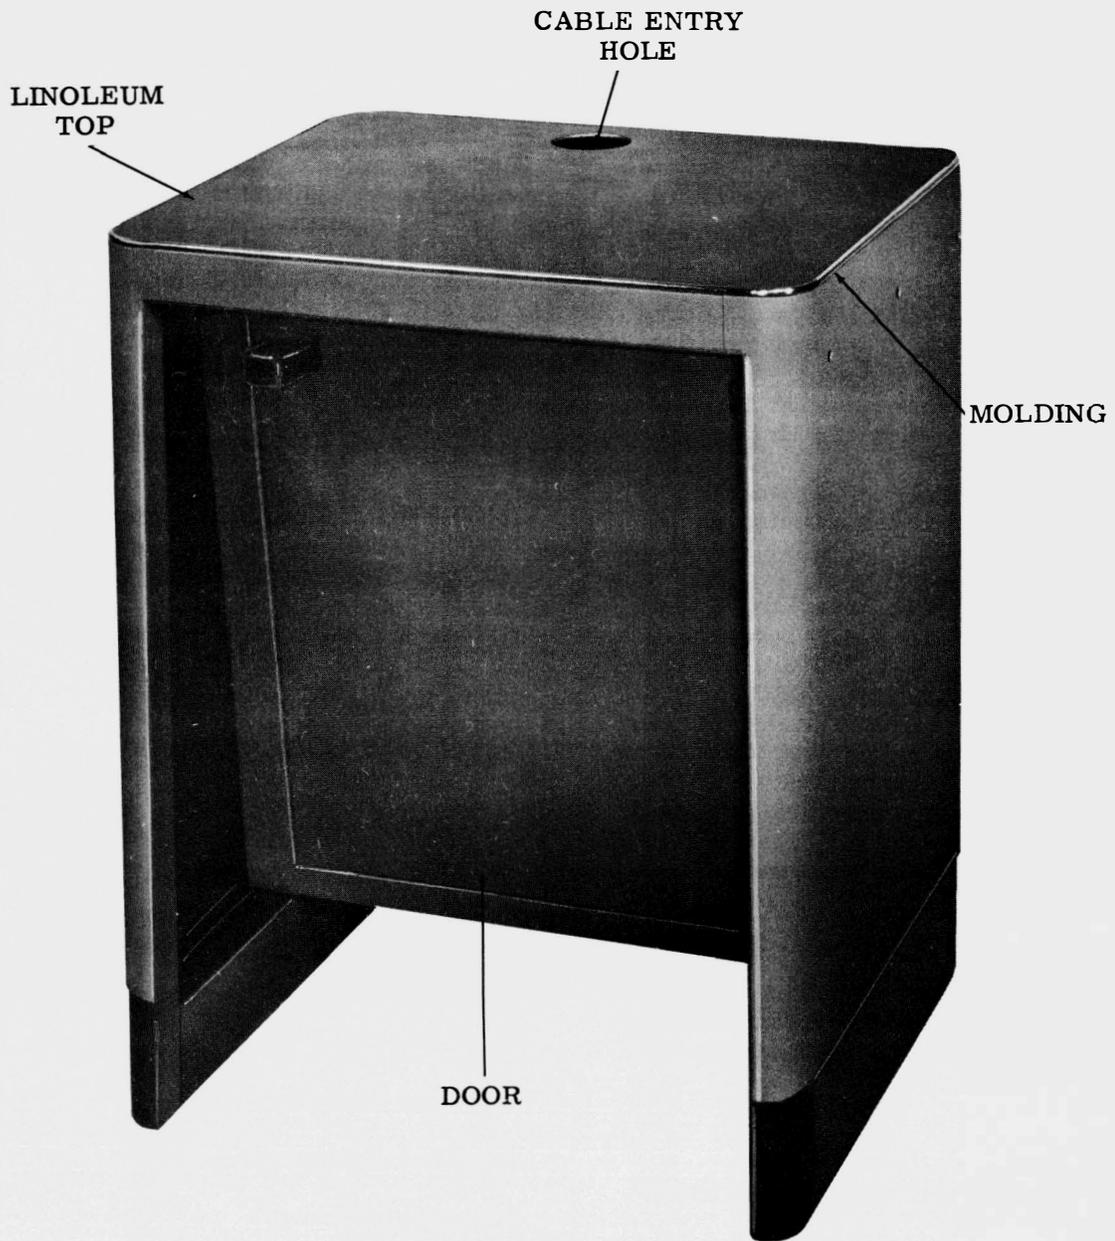

Figure 4 - 28 Reperforator Table
3. REPERFORATOR TABLES (Fig. 4)